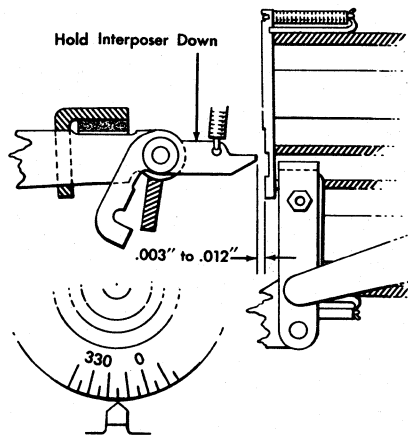

Figure 57. Interposer Unlatching Clearance
2. Shift interposer magnet unit to obtain unlatching clearance of .003-inch to .012-inch measured between tip of each interposer and its attracted armature (Figure 57). NOTE: The optimum setting for unlatching clearance within the stated limits depends to a large degree on operating voltage. Where the machine must operate much of the time at low voltage, a tendency toward minimum unlatching clearance will afford a greater safety factor. A typical malfunction due to low voltage is failure to trip an interposer while successively verifying a digit. The odd interposer positions normally fail first.